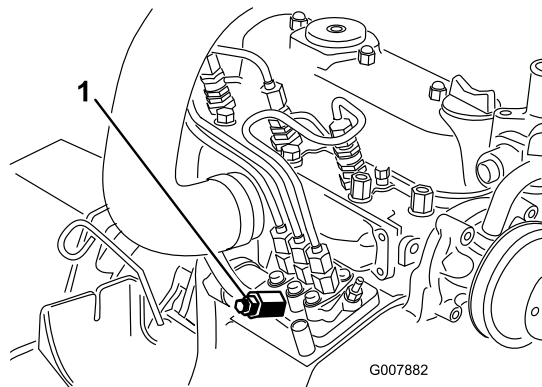

Figure 40
3. Place a rag under the air-bleed screw on the fuel-injection pump and open it (Figure 40).